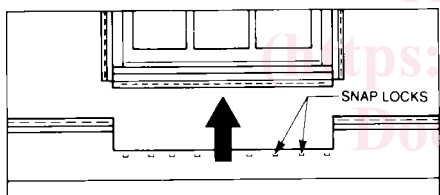

FIG. 15 Preparation of Siding Panel Under Window
9.3.6 At a window a siding panel may have to be cut to fit under the opening. Be sure this panel extends on both sides of the window. Measure the panel to fit. Hold the siding panel under the window and mark the width of the opening on it. Allow $\frac{1}{4}$ in. (6.4 mm) clearance at the edges for insertion into each side of the J-channel. Measure the space between the bottom edge of the S-lock on the previous panel and the undersill trim, being sure to allow $\frac{9}{16}$ in. (14.3 mm) for insertion into the undersill trim receiver. Remove cut section. Punch snap locks every 6 in. (152 mm) along the horizontal cut edge. Slide the panel up into position so the bottom locks into the previous panel and the top snaps into the undersill trim and fasten. (See Fig. 15.)